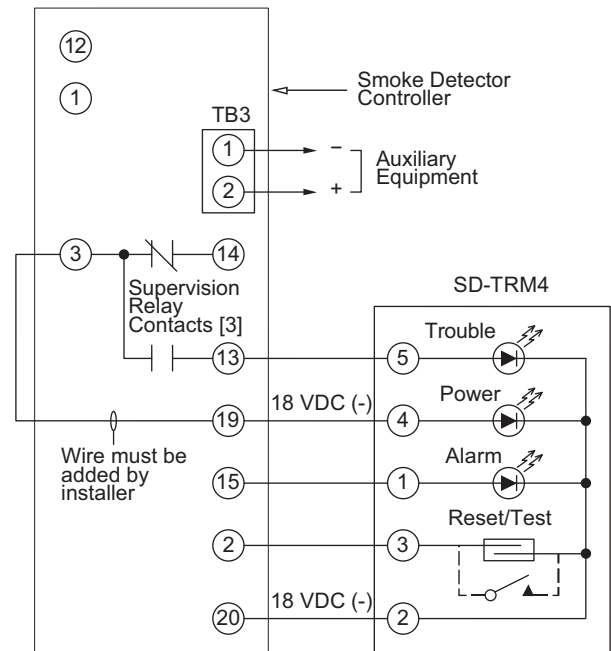

Fig. 48 — Remote Test/Reset Station Connections
The test/reset station dirty sensor test checks the test/reset station's ability to initiate a sensor dirty test and indicate the results. It must be wired to the controller as shown in Fig. 48 and configured to operate the controller's supervision relay. For more information, see "Dirty Sensor Test" on page 26.
1. Verify that the remote test/station is wired as shown in Fig. 48. Repair or replace loose or missing wiring.